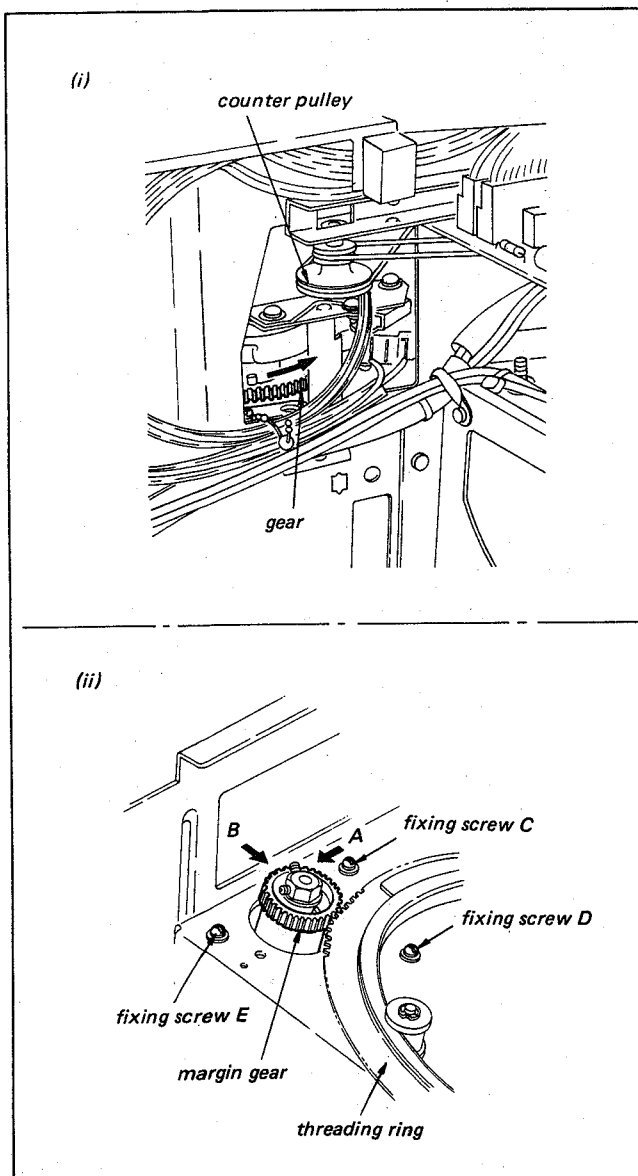

Fig. 4-30. Gear box position adj.
2. Turn the Gear of the Threading Arm Ass'y in the counter-clockwise direction as far as it turns with finger tip as shown in Fig. 4-30.
Install the Gear Box Ass'y so that about 0.2 mm ~ 0.3 mm clearance exists in B direction between the Margin Gear and the Threading Ring while pressing the Ass'y all the way in the A direction as shown in Fig. 4-30. Tighten the two fixing screws, marked C and D.